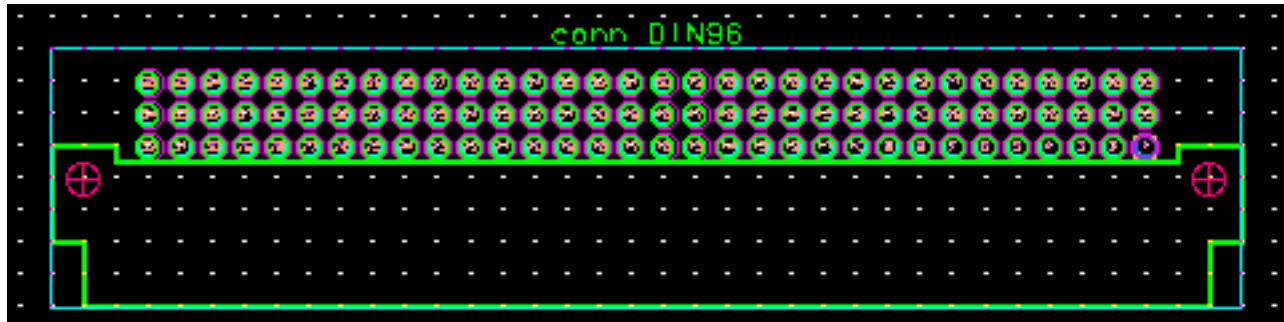

Figure 3-26. Complete Connector
16. Add the reference designator above the connector, as shown in Figure 3-26.